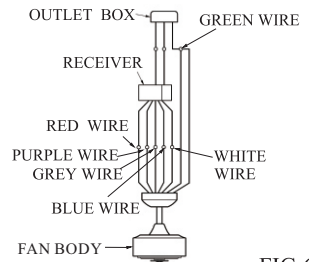

FIG.6
2. Connect the red wire from receiver to the red wire from fan with wire nut. Connect the purple wire from receiver to the purple wire from fan with wire nut. Connect the blue wire from receiver to the blue wire from fan with wire nut. Connect the grey wire from receiver to the grey wire from fan with wire nut. Connect the white wire from receiver to the white wire from fan with wire nut. Connect the green wire from ceiling, and green wire from hanger bracket with green wire from downrod ball with wire nut. (see Fig.6)